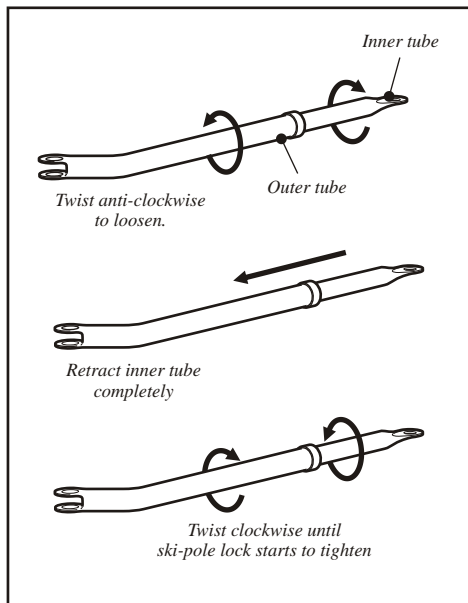

Figure 17 Prepare Connecting Arm For Installation
- Prepare the connecting arm for installation, by moving the inner tube to the retracted position (see Fig. 17). Turn the inner tube clockwise